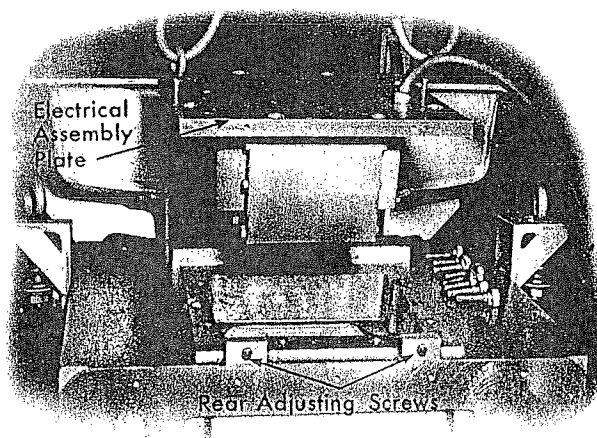

Fig. 7
3. Lift the electrical assembly from the body casting, using a sling passed thru eye bolts threaded into the electrical assembly plate. (See Fig. 7).